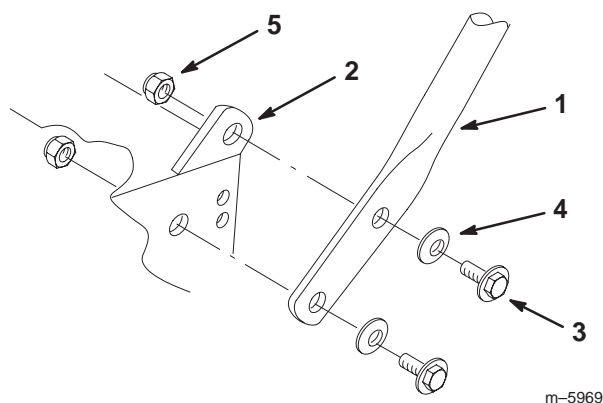

Figure 3
1. Align the holes in upper handle with the mounting holes in the rear frame and bracket (Fig. 3).
Important Install the flange bolts with the bolt head on the outside of the upper handle. Refer to figure 3.
2. Secure each leg of the upper handle to the rear frame and bracket with two flange bolts (3/8 x 1 in. (26 mm), spring washers and flange nuts (Fig. 3). Tighten until spring washers are compressed.